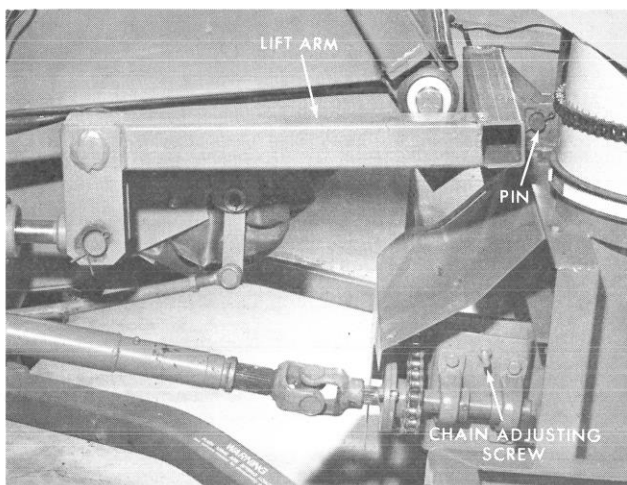

Figure 6
9. Remove the existing lift arm from the Groundsmaster and install the new arm. See Figure 6. Install the chain shield and adjust it close to the chute.
12. Attach the new lift arm to the bracket on the snow blower frame with the large pin and cotter pin as shown in Figure 6.
13. Check the chain tension and adjust if necessary with the jack screw shown in Figure 6. Adjust chain so there is about 1/2 inch slack.